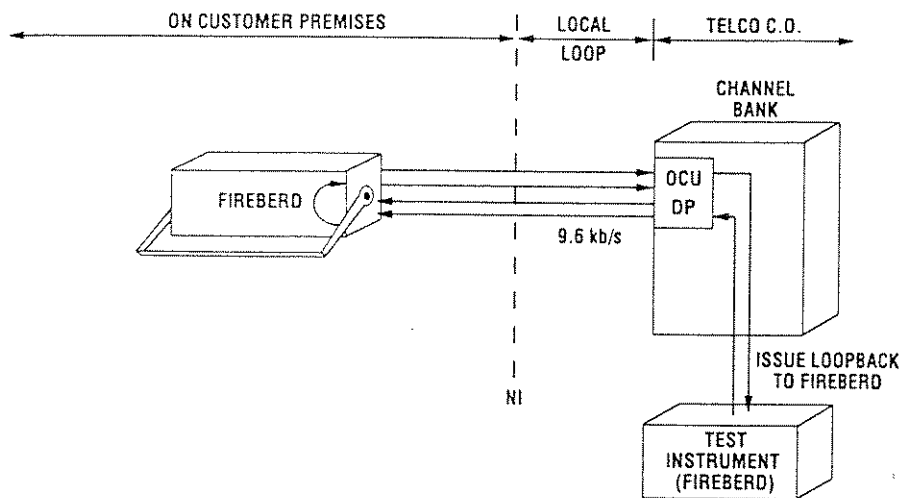

Figure 1-10
Figure 1-10 shows a FIREBERD 6000 with a DDS Local Loop Data Interface Module connected to the local loop. Another instrument at the serving test center sends a channel loopback in the direction of the FIREBERD. The FIREBERD recognizes and responds to the channel loopback by placing itself in a loop towards the network. The serving test center performs the bit error test; the FIREBERD can provide level, current, and frame analysis in-service.
4.	<p>NOTE: When using the DDS Local Loop Data Interface Module, the GEN CLK switch is automatically set to the INTF position. Additionally, the TIMING MODE switch is disabled; therefore, no setting is required.</p> <p>Using the MENU switch:</p> <ul style="list-style-type: none"> a. Configure the DDS Local Loop Data Interface Module using INTF SETUP. Select these softkeys: <ul style="list-style-type: none"> 1. DDSLL to access the DDS Local Loop Data Interface Module. 2. RATE to access the data rate menu. 3. 9.6K to test the 9.6 kb/s circuit shown in Figure 1-10. 4. Δ CHAN to enter the channel selection menu. 5. OFF to indicate that secondary channel is not present. 6. Δ TX LEVEL to access the transmit level menu. 7. 0 dB to add no additional loss to the transmit level. 8. Δ MORE TXCLK to access the timing source menu. 9. RECOV to recover timing from the DDS network. 10. Δ ERRINS to select the error insert menu. 11. OFF to turn off error insertion. b. Configure the FIREBERD for a TIMED or CONTINUOUS test using the TEST INTERVAL switch (see Appendix C). c. If hard-copy test results are desired, set the print event criteria using PRINT EVENT, then enable the printer control block (located to the left of the POWER switch) by setting the OFF/ON switch to the ON position. (See Appendix D for a sample DDS print event.) <p>5. Using the appropriate cables, connect the FIREBERD 6000 to the equipment under test.</p> <p>6. Check that the SYNC LED (upper right corner of the unit) is illuminated.</p> <p>RESULT: The FIREBERD has achieved pattern synchronization and is gathering test results. (Section 1.10 lists all DDS test results.)</p>